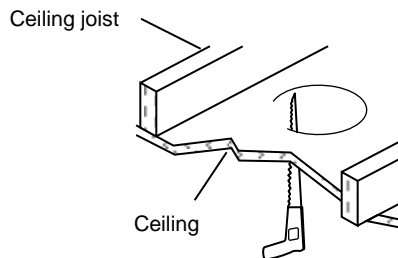

Fig. 1
2. Using a keyhole saw make a 4 1/4" hole in the ceiling surface. (Fig. 1) **(Note: Be sure not to make the hole any larger than specified by the template. An oversized hole may not allow for proper installation.)**